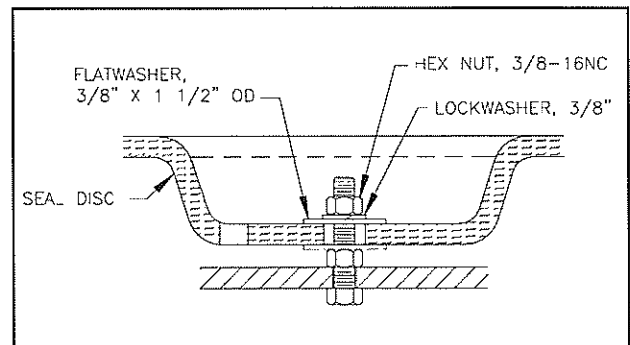

Figure 6
Install 3/8" NC bolts at six (6) places on top hub plate (See Figure 6). Threaded portion of bolts must be pointing up to mount seal disc. Install lock washer, nut, and flat washer on each bolt. Tighten 3/8" NC nuts to 15 ft-lb (lubricated) and 20 ft-lb (dry).
After mounting, install flat washer, lock washer, and 3/8" NC nuts. Tighten to 15 ft-lb (lubricated) or 20 ft-lb (dry). (See Figure 6)